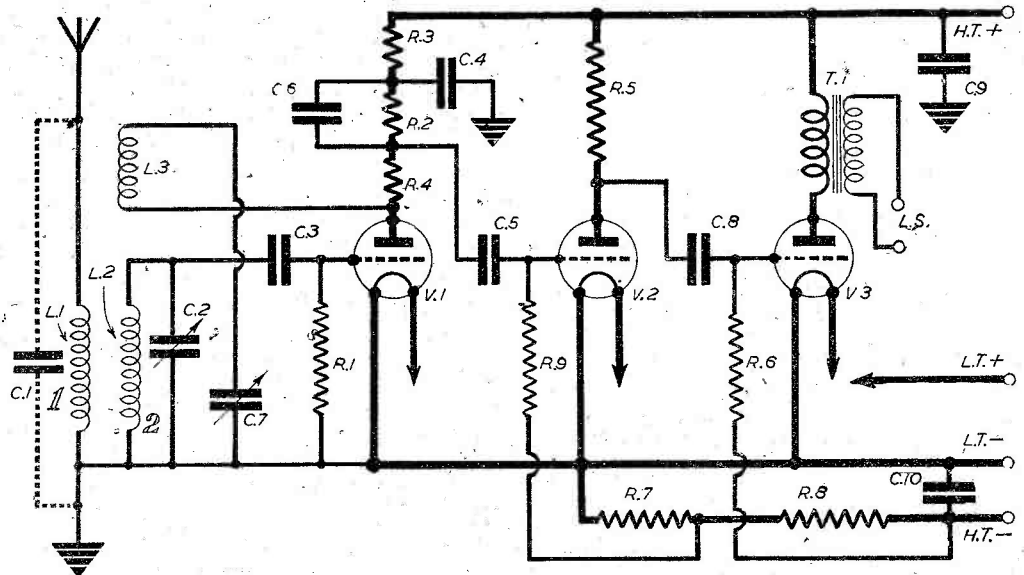

Fig. 66.—Analysis of a battery-operated receiver of the o-V-2 class.
**A Circuit Analysis of a Simple Receiver (Fig. 66)**